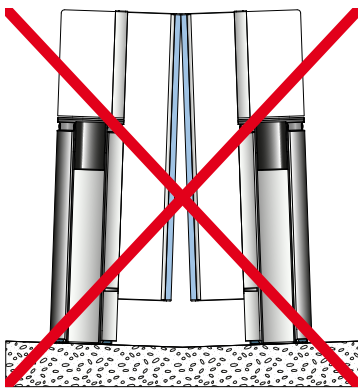

Fig. 22 - Do not exceed the flatness tolerance.
- If this tolerance is exceeded (⇒ Fig. 22), the floor must be levelled with grout before the gates are installed.